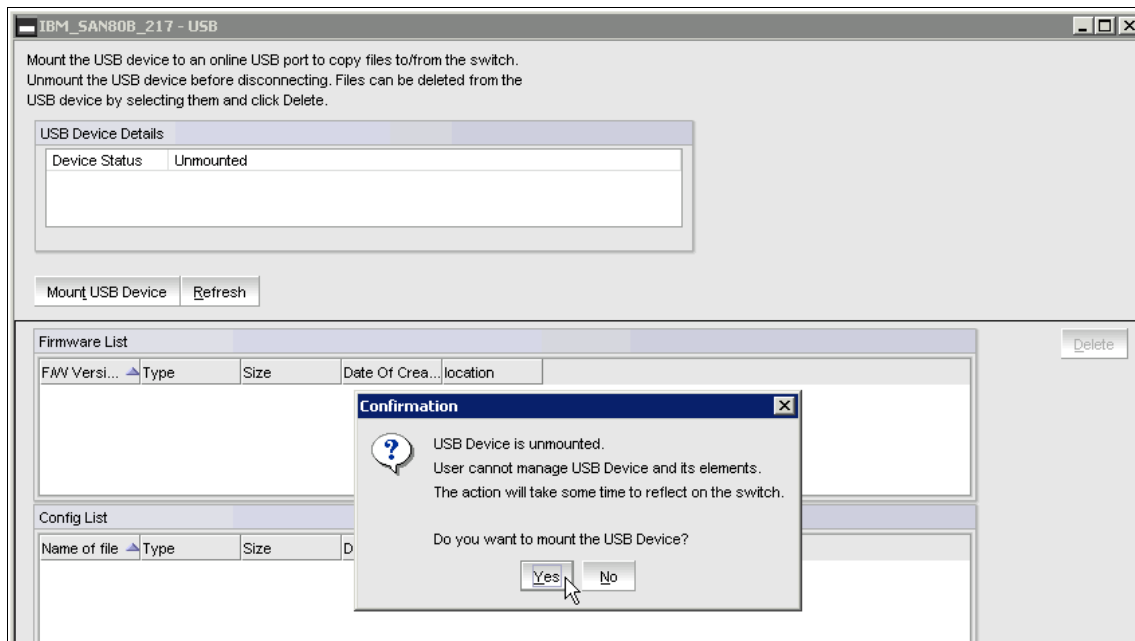

Figure 12-53 Confirmation for mounting the USB device
3. Confirm the mount by clicking **Yes** in the message dialog box as shown in Figure 12-53.